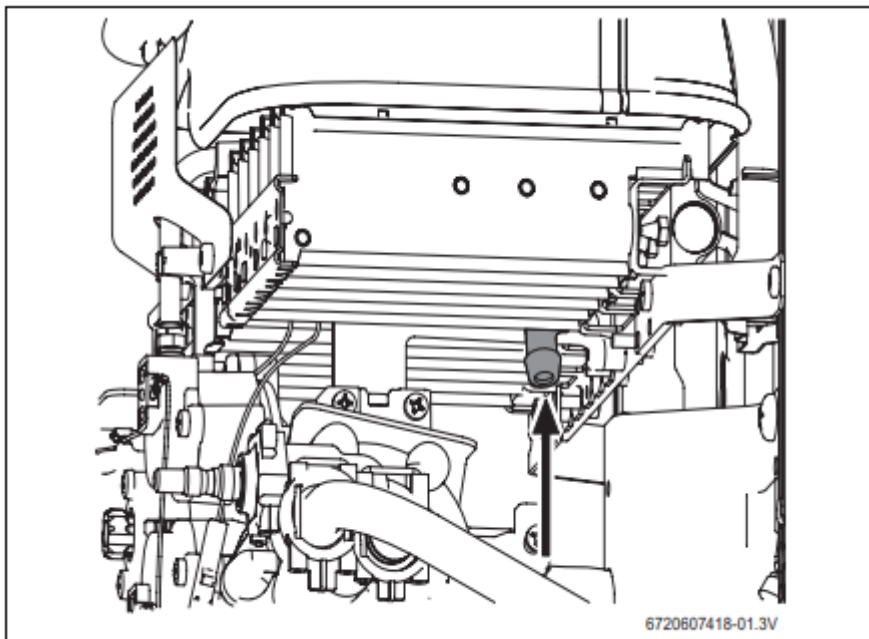

Fig. 16 Pressure measurement point
- loosen the burner test point captive screw (Fig. 16).